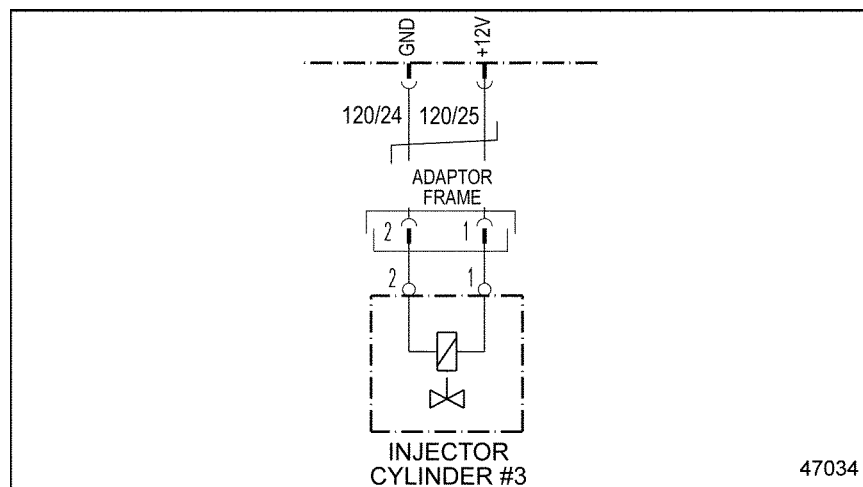

Figure 26-1 **Injector #3**
4. Measure the voltage between pins 1 and 2 of injector #3. See Figure 26-1.